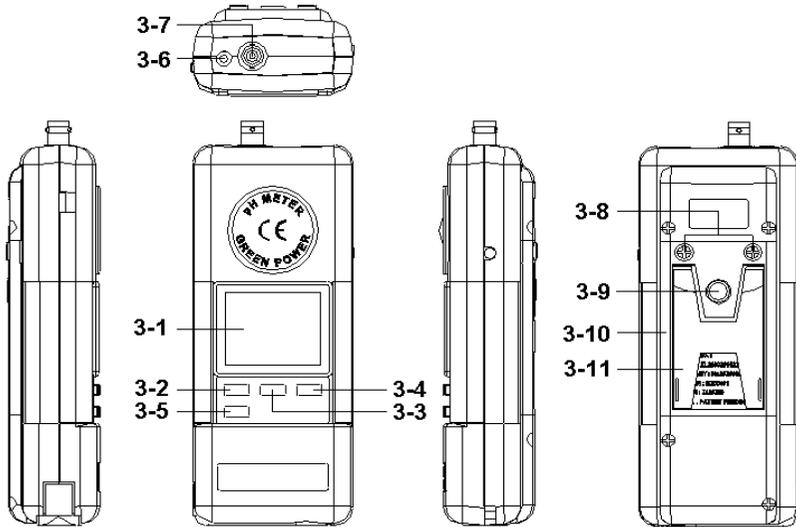

Fig. 1
- 1) Connect the pH ELECTRODE to the " pH Electrode Input Socket " (3-7, Fig. 1).
- 2) Power on the instrument by pressing the " Power Button " (3-2, Fig. 1).
- * If intend to make operation under the ATC (Automatic temperature compensation, it should prepare an optional Temp. probe TP-07, plug the Temp. probe's plug into the " ATC Probe Input Socket " (3-6, Fig. 1) and insert the Temp. sensing head into the measurement solution, the lower LCD display will show the temperature value of solution.
- 1) Power on the instrument by pressing the " Power Button " (3-2, Fig. 1).
- 2) Press the " FUNCTION Button " (3-3, Fig. 1) continuously at least two seconds until Display show the " mV " indicator then release the button, it is ready for the " mV " (ORP) measurement.
- 3) Connect the ORP ELECTRODE to the " BNC Input Socket " (3-7, Fig. 1).
** During the Display show the " mV " indicator, press the " FUNCTION Button " (3-3, Fig. 1) continuously at least two seconds until Display show the " pH " indicator then release the button, the meter will return to " pH " measurement.*
- 1) Plug the " Optional ATC Temp. Probe, TP-07 " into the " ATC Probe Input Socket " (3-6, Fig. 1).
Press the " Hold Button " (3-3, Fig. 1) will hold the measured value & the LCD will indicate a " HOLD " symbol on the display during the measuring.
- * The data record function records the maximum and minimum readings. Press the " REC. Button " (3-4, Fig. 1) to start the Data Record function and there will be a " REC " symbol on the display.
- a) Press the " REC. Button " (3-4, Fig. 1) once, the " REC Max " symbol along with the maximum value will appear on the display.
If you intend to delete the maximum value, just press the " Hold Button " (3-3, Fig. 1) for a while, then the display will show the " REC " symbol only & execute the memory function continuously.
- b) Press the " REC. Button " (3-4, Fig. 1) again, the " REC Min " symbol along with the minimum value will appear on the display.
If you intend to delete the minimum value, just press the " Hold Button " (3-3, Fig. 1) for a while, then the display will show the " REC " symbol only & execute the memory function continuously.
- 1) Connect the pH ELECTRODE to the " pH Electrode Input Socket " (3-6, Fig. 1).
- * Press once the two " CAL Buttons " (3-3. 3-4, Fig. 1) together, the upper display show value of " 7.00 " and the lower display show the text " CAL " .
- * Press the " ENTER Button " (3-4, Fig. 1) once, the upper display (7.00) will flash for around 6 seconds then stop to flash.
- * Press once the two " CAL Buttons " (3-3. 3-4, Fig. 1) together and once , the upper display show value of " 7.00 " and the lower display show the text " CAL " .
- * Press both the " ▲ Button " (3-3, Fig. 1) or " ▼ button " (3-5, Fig. 1) once in sequence, the screen will show as following in cycle.
- * Upon select the screen A or (screen B), then press the " ENTER Button " (3-4, Fig. 1) once, the upper display (7.00 or 4.00) will flash for around 6 seconds, then stop to flash. After that, the meter calibrate itself automatically, then show :